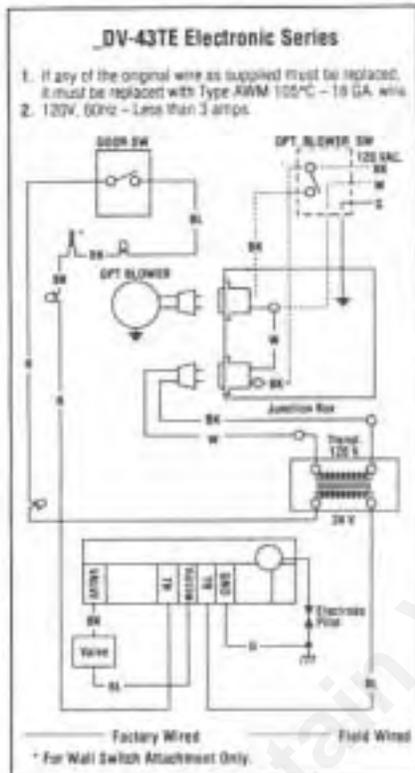

Figure 34
**Step 7. Field Wiring Electronic Appliances –** Regardless of whether an optional forced air blower kit is to be installed now or sometime in the future, the appliance must be connected to the main power supply. To install, route a 3-wire 120V 60Hz power supply to the appliance junction box (located in the lower right side of the appliance) and ground. Refer to the installation instructions provided with the forced air kit. Also, locate and install the low voltage (24V) wall switch in the desired location and connect the low voltage wire to this switch (Figure 34).